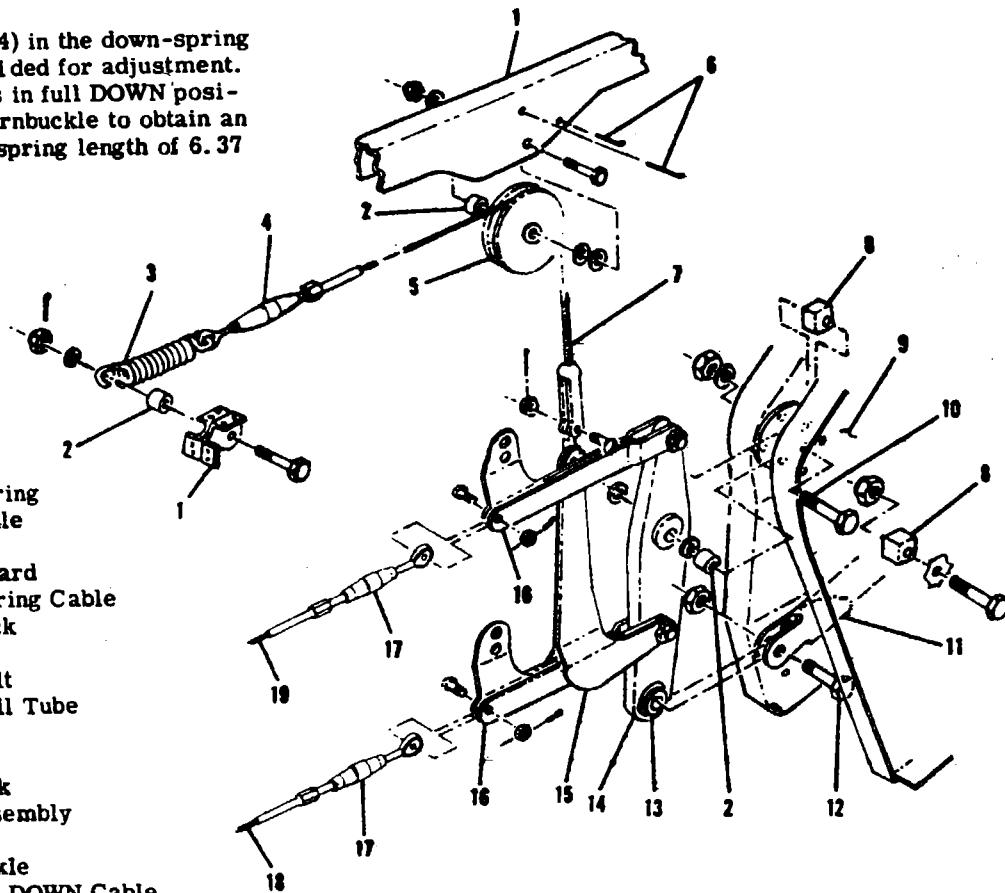

Figure 8-3. Elevator Bellcrank Installation
8-8. BELLCRANK. (Refer to figure 8-3.)
b. Remove safety wire and relieve cable tension at turnbuckles (9).
c. Disconnect cables at control column arm assemblies (3) and disconnect balance weight (5).
d. Disconnect cables at bellcrank links (index 16, figure 8-3).
8-14. RIGGING. (Refer to figure 8-3.)